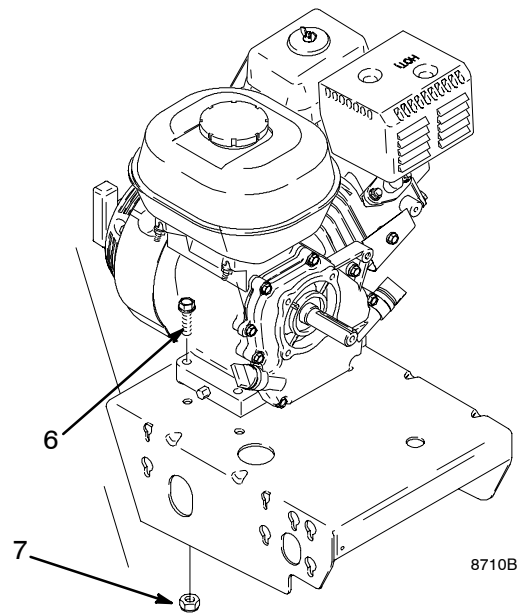

Fig. 7
3. Fig. 7. Remove two locknuts (7) and screws (6) from base of engine.
2. Fig. 7. Install two screws (6) in base of engine and secure with locknuts (7). Torque to 200 in-lb (22.6 N•m).